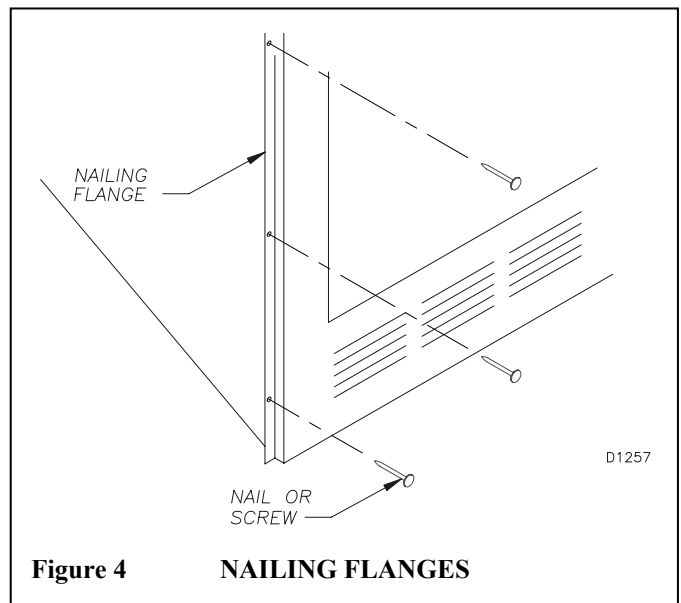

Figure 4 NAILING FLANGES
STEP 6: Secure the fireplace to the framing through flanges located on the sides of the fireplace (see figure 4).